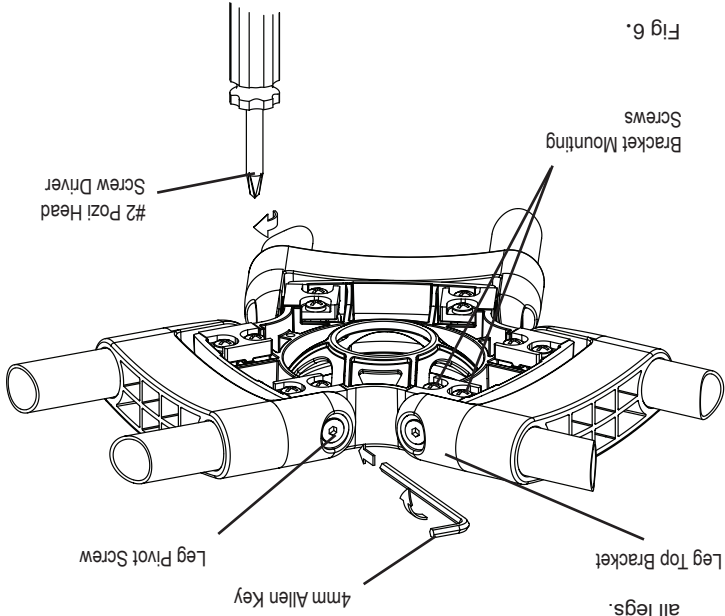

Fig 6.
- The leg to bowl pivot joint on the HDC tripod should have no lateral or free play movement and should swing with a firm, smooth resistance. Adjustment is usually not required, however, should it become necessary, the following procedure must be observed. (Fig 6.)